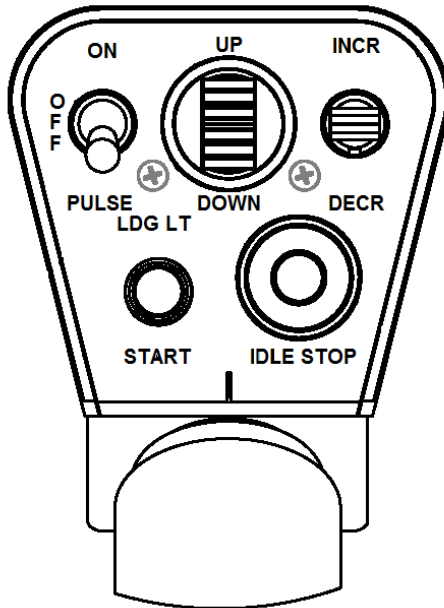

Figure 7-1. Collective Switch Box Configured with Pulse Landing Light
- a. Operation of the pulse landing light illumination and landing light positioning is controlled by a pair of switches on the pilot's and co-pilot's collective switch box as shown in Figure 7-1.
The pilot's and co-pilot's collective switch box contains two landing light switches jointly labeled **LDG LT** as shown in Figure 7-1.